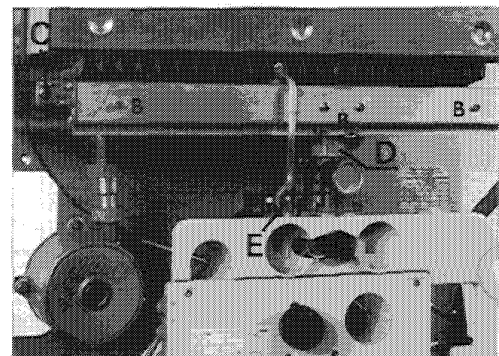

Fig. 21
7.2.1 To clean the burner (fig. 21)
- Remove pilot clamp screw (A fig. 21)
- Carefully unscrew the nut retaining the pilot injector (F fig. 21) taking care not to lose the injector which is in form of a small washer using a 8 mm or adjustable spanner. Clean the injector by blowing also clean pilot filter.